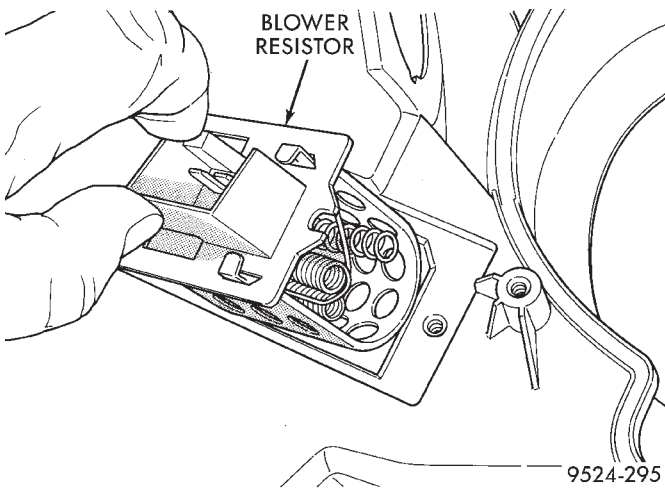

Fig. 86 Blower Motor Resistor
- (16) Remove blower motor resistor (Fig. 86).